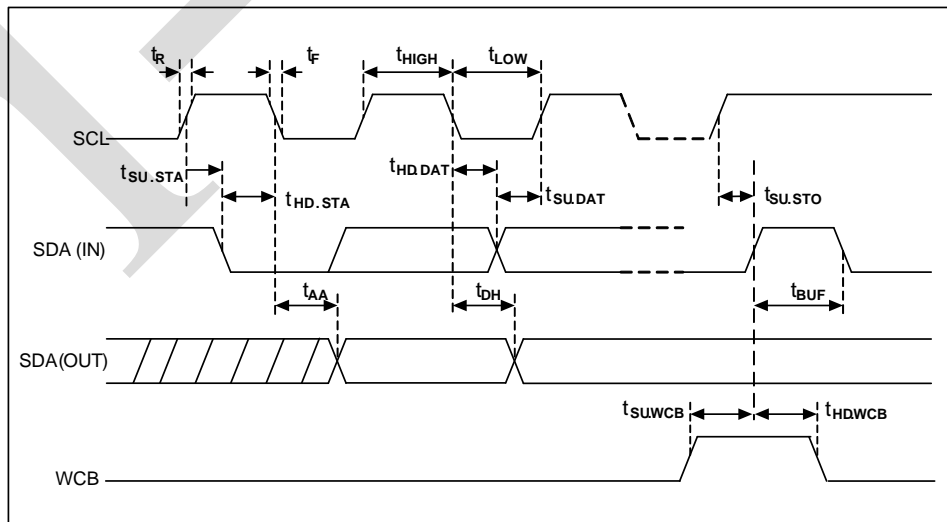

Figure 4-5
4.1.7、 Bus Timing (see Figure 4-5)